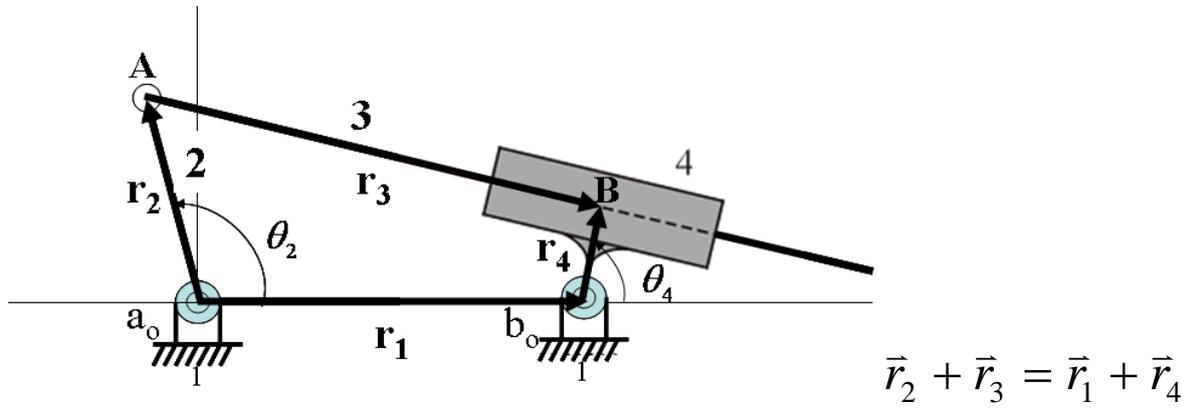

Figure P-3
3. For a mechanism shown in figure P-3, (a) find all instant centers, (b) use vector loop method, if $r_2=20\text{cm}$, $a_0b_0=40\text{cm}$, $r_4=8\text{cm}$, and $\theta_2 = 120^\circ$, $\omega_2 = 10\text{rad/s}$, find ω_4 . (30%)